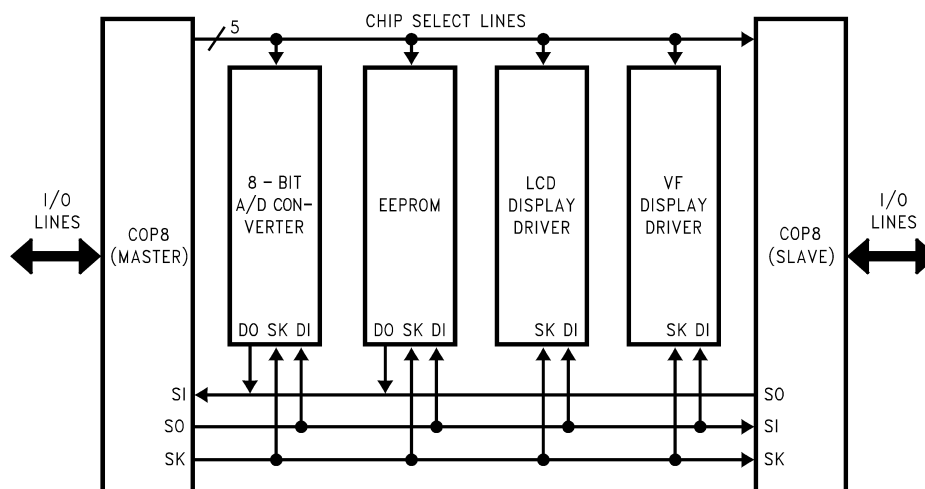

**Figure 5-26. MICROWIRE/PLUS Application**
MICROWIRE/PLUS is a serial SPI compatible synchronous communications interface. The MICROWIRE/PLUS capability enables the device to interface with MICROWIRE/PLUS or SPI peripherals (i.e. A/D converters, display drivers, EEPROMs etc.) and with other microcontrollers which support the MICROWIRE/PLUS or SPI interface. It consists of an 8-bit serial shift register (SIO) with serial data input (SI), serial data output (SO) and serial shift clock (SK). Figure 5-26 shows a block diagram of the MICROWIRE/PLUS logic.
Setting the BUSY bit in the PSW register causes the MICROWIRE/PLUS to start shifting the data. It gets reset when eight data bits have been shifted. The user may reset the BUSY bit by software to allow less than 8 bits to shift. If enabled, an interrupt is generated when eight data bits have been shifted. The device may enter the MICROWIRE/PLUS mode either as a Master or as a Slave. Figure 5-26 shows how two microcontroller devices and several peripherals may be interconnected using the MICROWIRE/PLUS arrangements.